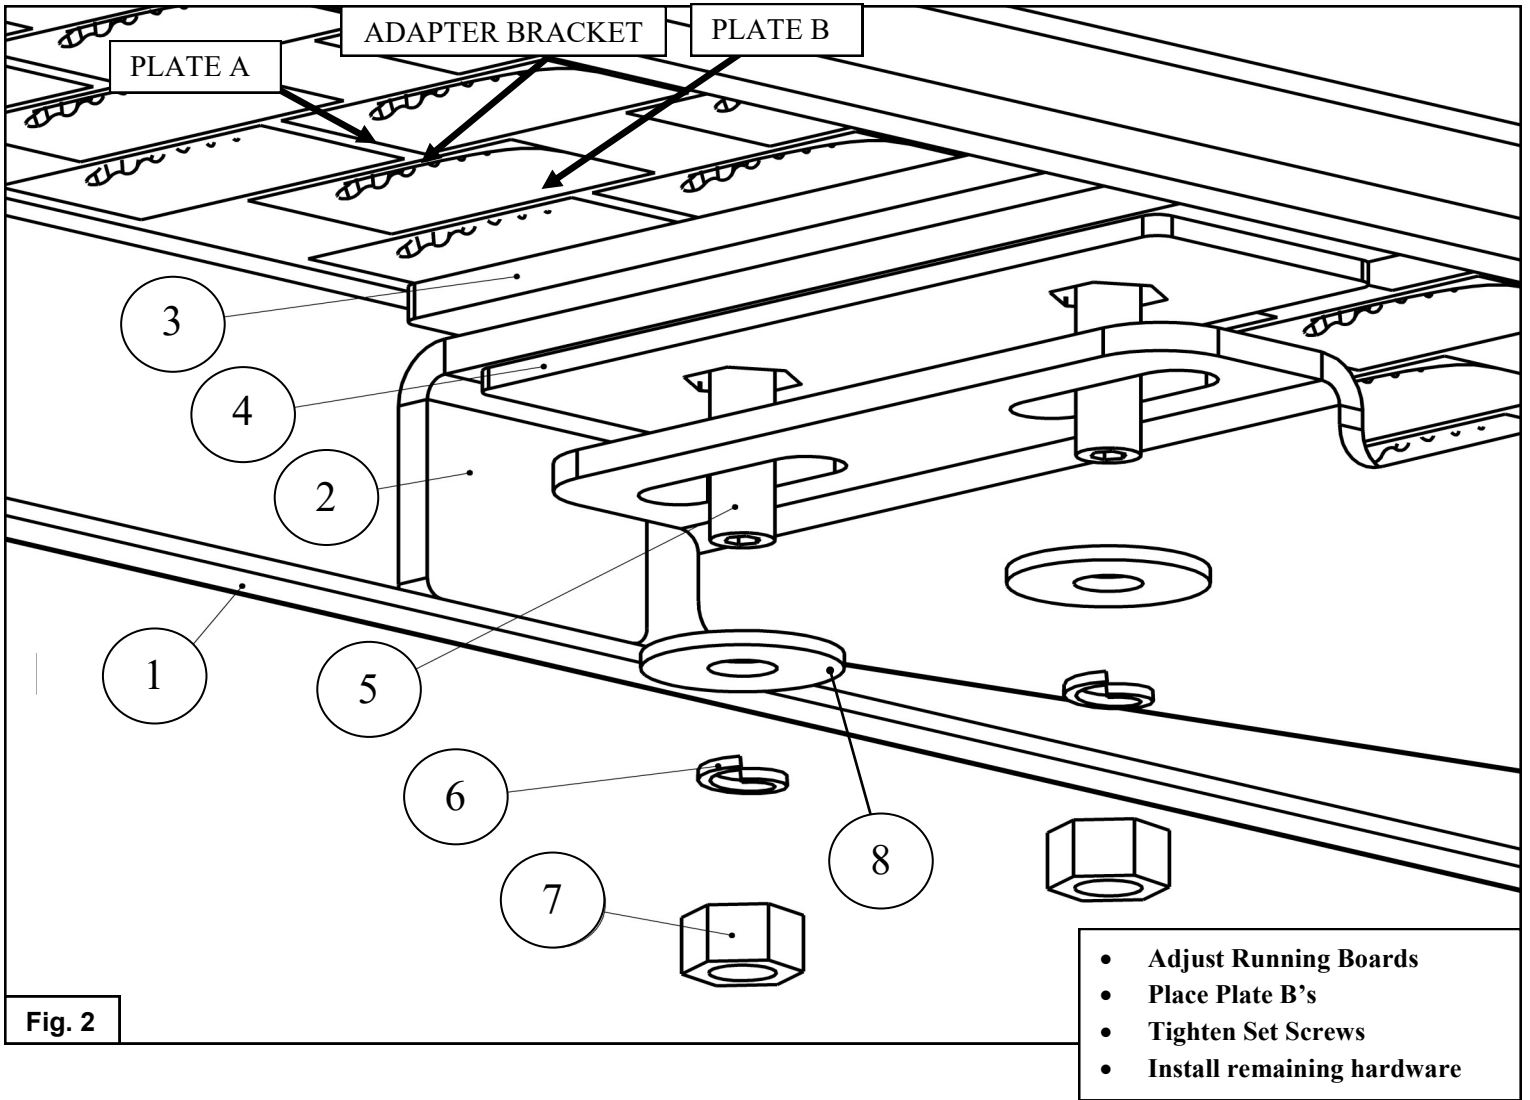

Fig. 2
6. For each Adapter Bracket (Item 2), lift the Running Board Assembly and place a Plate B (Item 4) between the Adapter Bracket and the Mount Bracket. See **Figure 2**.
8. For each Adapter Bracket/Mount Bracket pair, use (2) M8 Split Lock Washers (Item 6), (2) M8 Hex Nuts (Item 7), and (2) M8 Flat Washers (Item 8) to secure the Adapter Brackets (Item 2) to the Mount Brackets. See **Figure 2**.